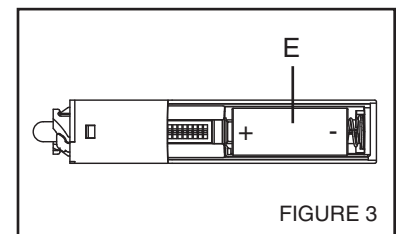

FIGURE 3
2. Install battery (E) into wireless pushbutton. (Figure 3)
- b. Verify proper installation batteries in chime mechanism and pushbutton. (Figure 3)
- Check the batteries in the chime and wireless pushbutton. (Figure 3, 6)